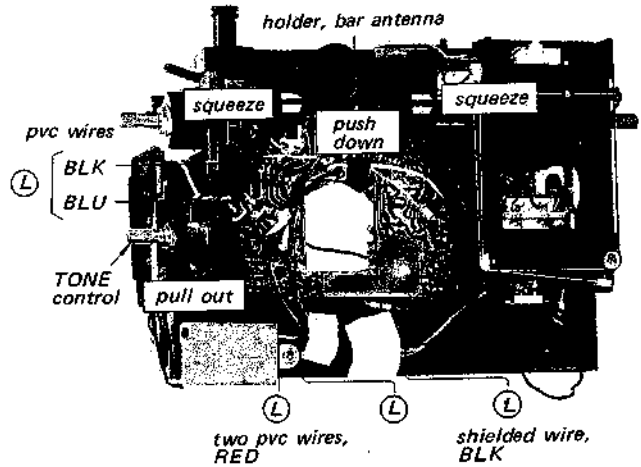

Fig. 2-9.
8. Unsolder the six wires (BLU, two BLK, two RED and shielded wire) labeled (L) in Fig. 2-9.
9. Pull out the TONE control with holder shown in Fig. 2-9.